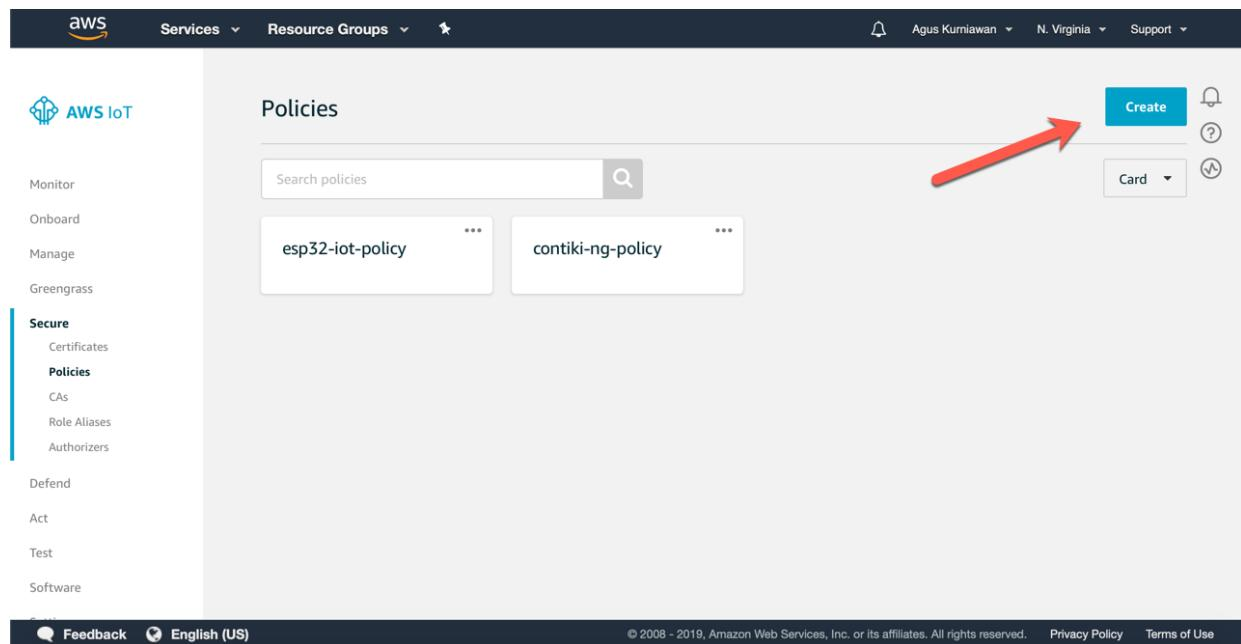

Figure 10.7: Creating a security policy
3. Click on the Secure | Policies menu so that you can get a web form, as shown in *Figure 10.7*.